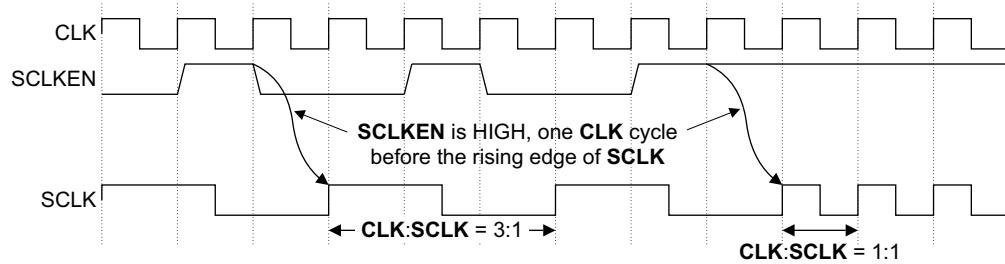

Figure 2-3 SCLKEN with CLK:SCLK ratio changing from 3:1 to 1:1
Figure 2-3 on page 2-9 shows a timing example of **SCLKEN** that changes the **CLK** to **SCLK** frequency ratio from 3:1 to 1:1.
- Figure 2-3 shows the timing relationship between the CHI clock, **SCLK** and **SCLKEN**, where **SCLKEN** asserts one **CLK** cycle before the rising edge of **SCLK**. It is important that the relationship between **SCLK** and **SCLKEN** is maintained.